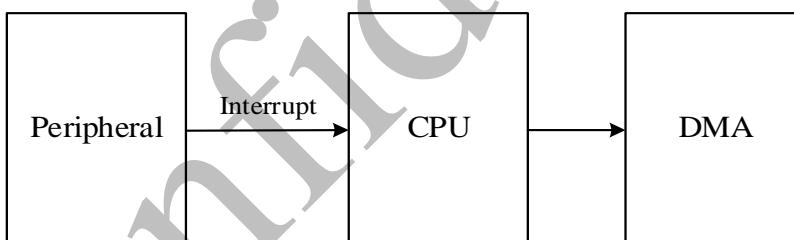

Figure 3-28 Software Controlled DMA Transfers
- When the slave peripheral requires the DMA to perform a DMA transaction, it communicates this request by sending an interrupt to the CPU or interrupt controller. The interrupt service routine then uses the software register, which shows in the Figure 3-28.